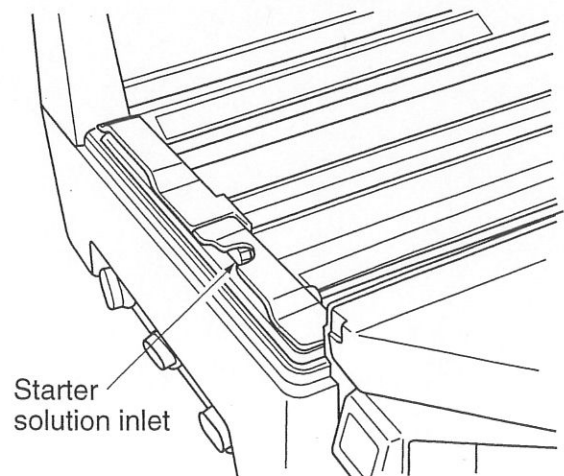

fig.43
- ⑧ Pour the starter solution into the starter solution inlet in the developing tank. (fig.43)
- ⑨ Close the top cover.